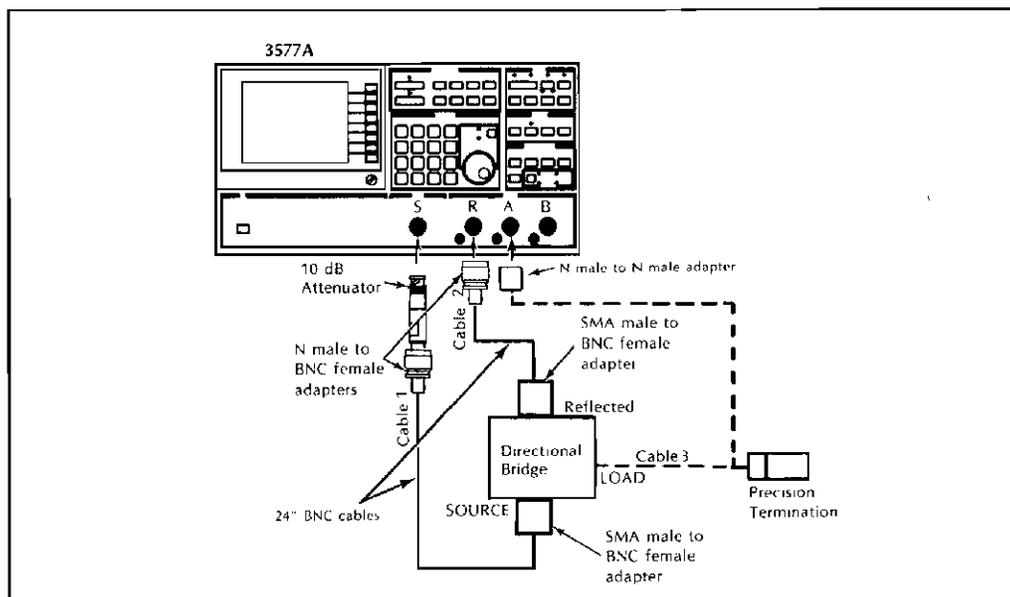

Figure 3-15 Receiver Return Loss Test Set-Up
- b. Connect the equipment as shown in Figure 3-15, leaving the load port of the directional bridge unconnected.